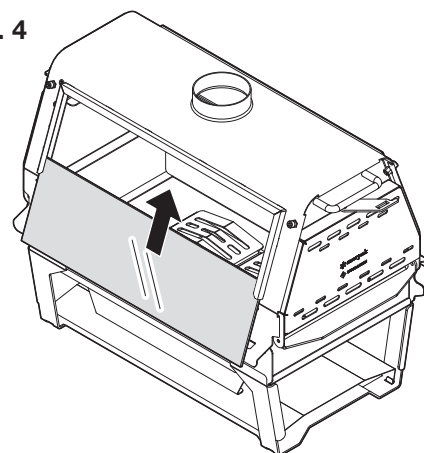

Fig. 5
⑤ Firmly attach the fixing bolts and glass frame that have been removed in step ① again. (Fig. 5)